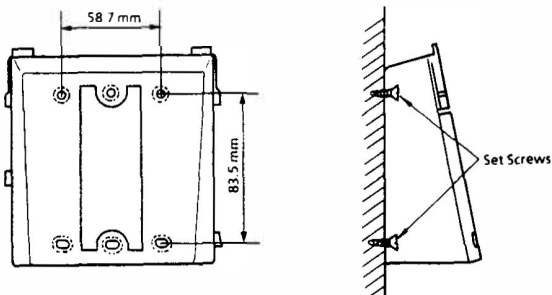

Figure 200-60 Setting the WMU-Z Unit to the Wall
4. Fasten the optional wall mount unit (WMU-Z) to the wall, as shown in Figure 200-60 Setting the WMU-Z Unit to the Wall.